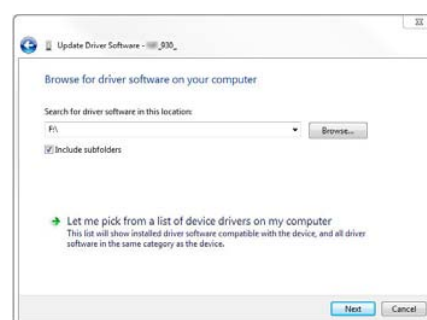

Figure 38: Select the driver source
- Select your CD-ROM drive and then click on "Next". Let the Wizard look for appropriate drivers. Choose the driver for your Neopost printer and click on "Next" (see Figure 38).